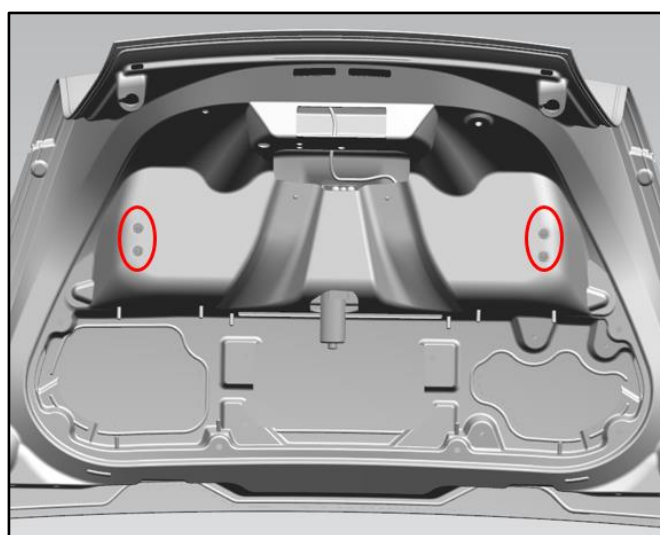

Figure 18
22. Torque the four screws that attach the spoiler blade to the spoiler mechanism to 9Nm. Get access to the four screws through the access hole in the boot lid and spoiler mechanism. (Refer to Figure 18.)